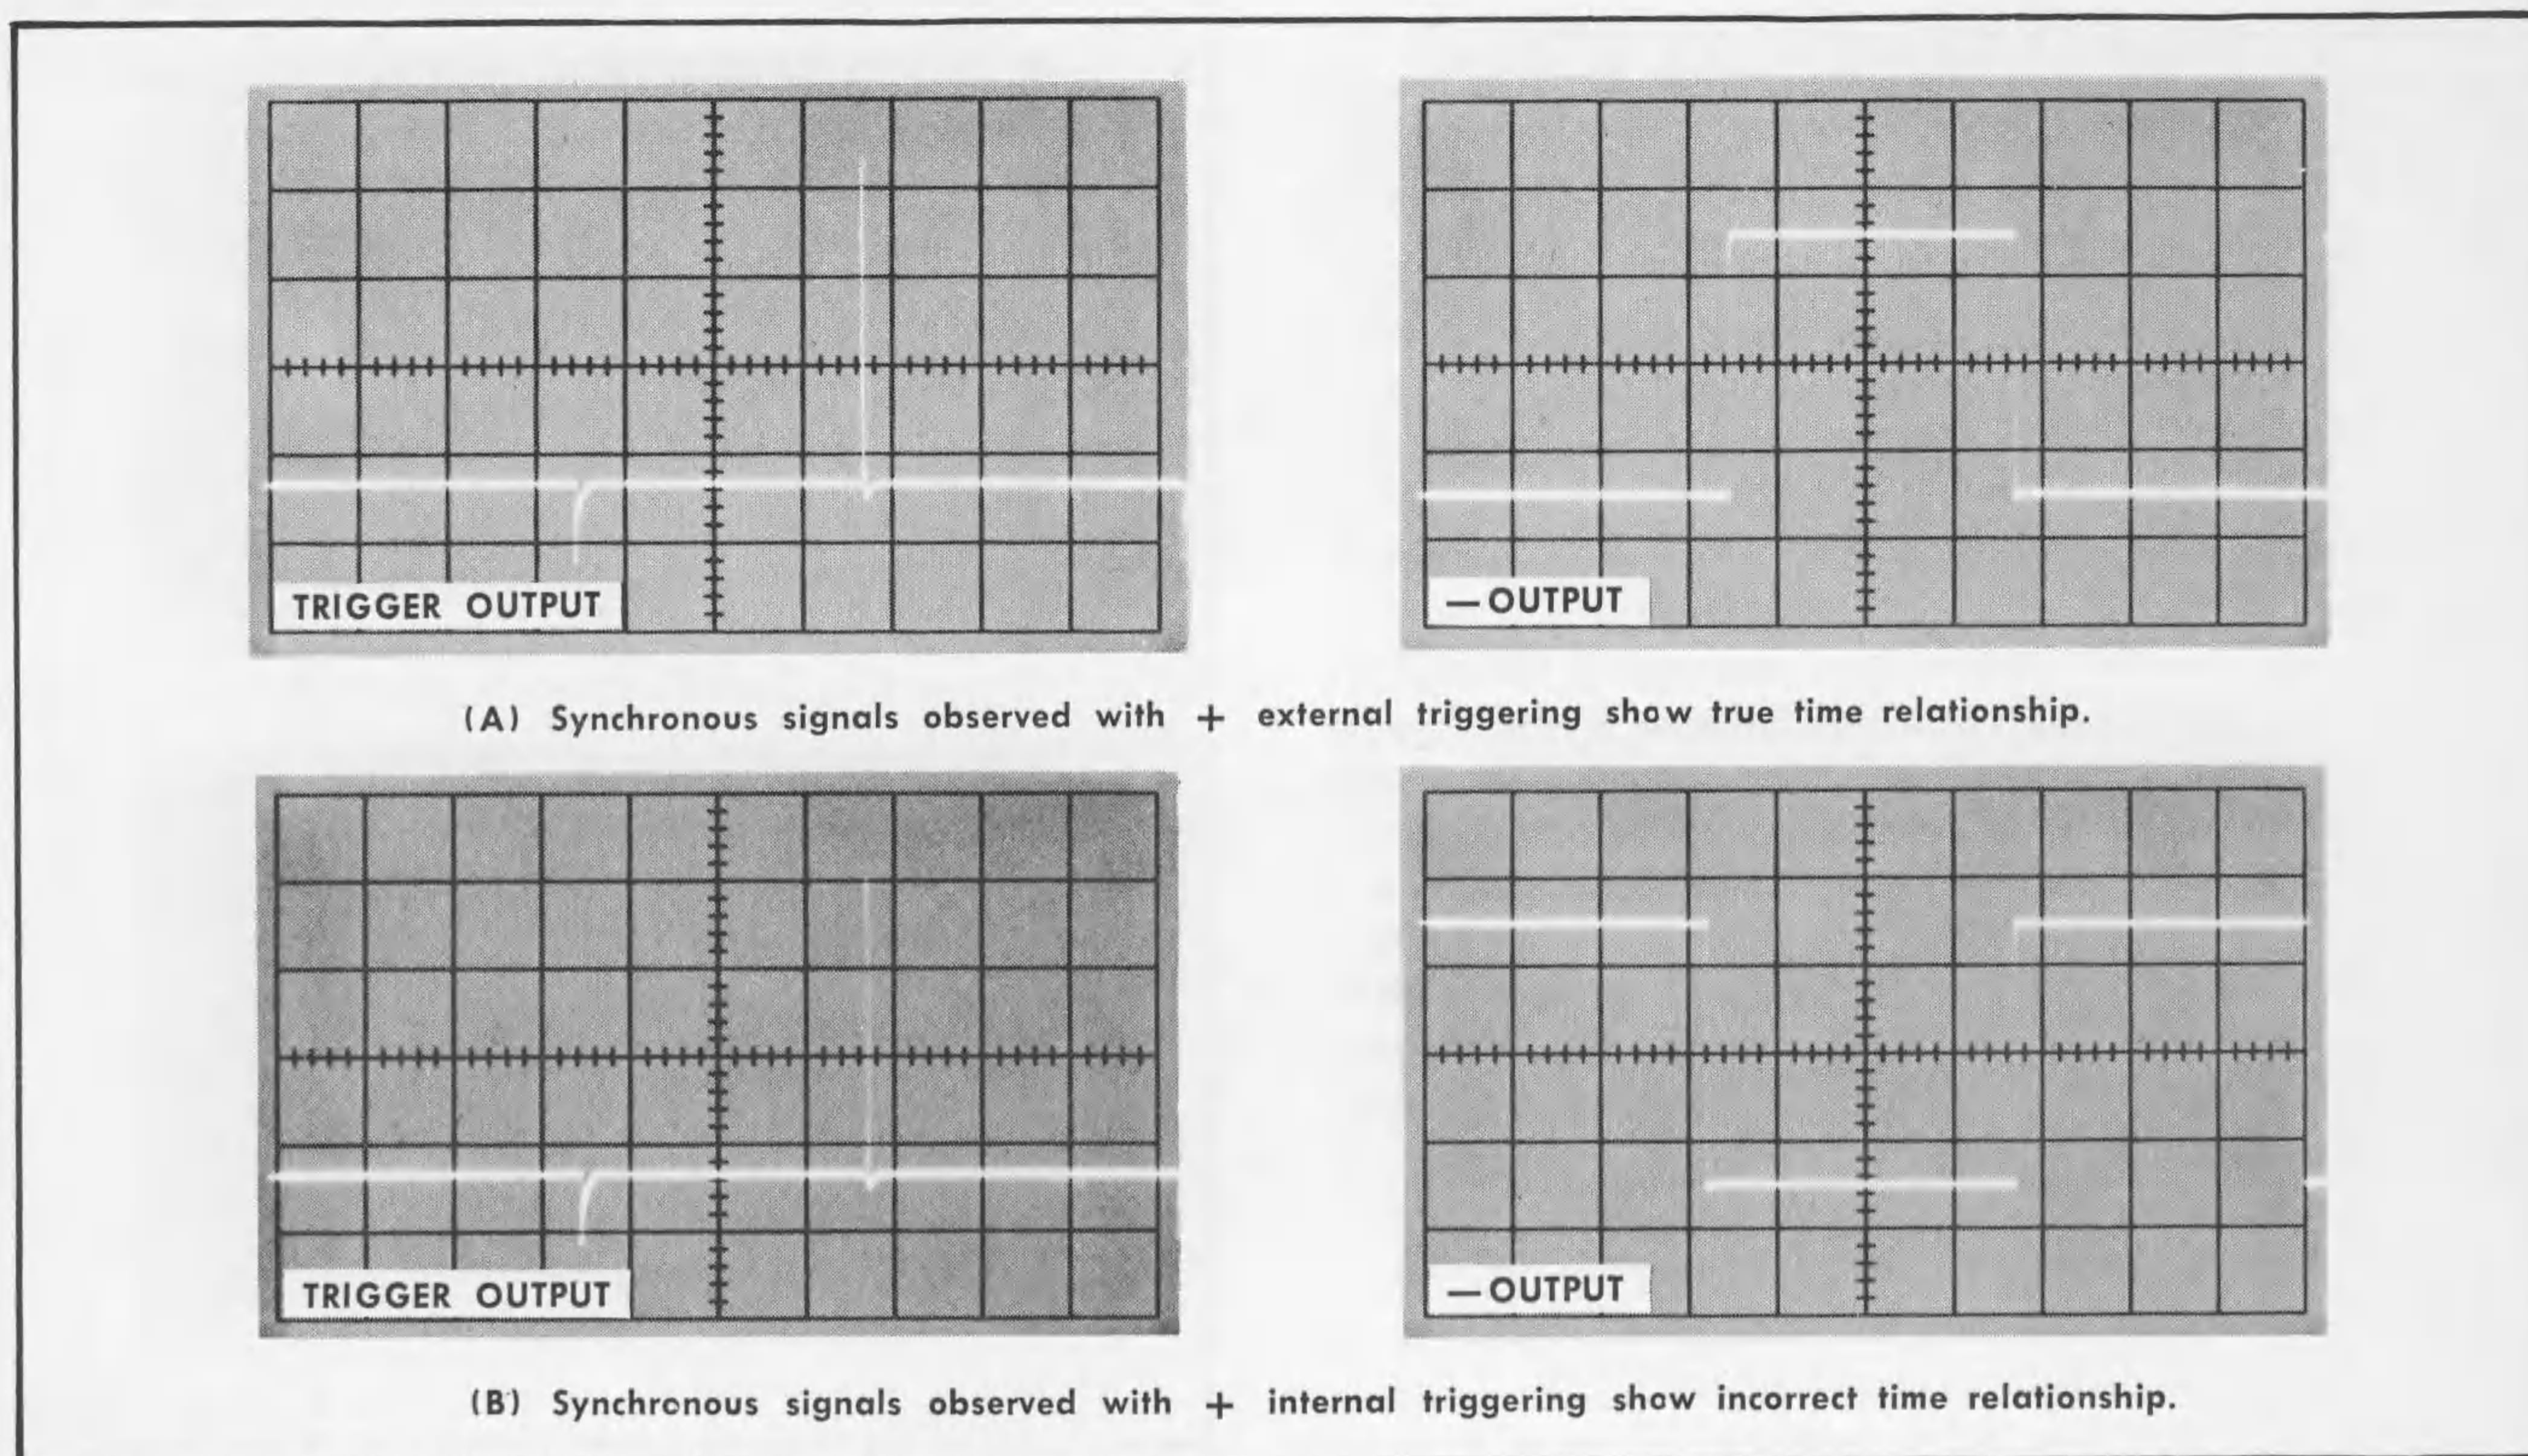

Fig. 2-13. Importance of external triggering for phase or polarity comparison. (Signals supplied by Tektronix Type 106 Square-Wave Generator.)
**Phase and Polarity Relationships.** When internal triggering is used, the signal slope displayed at the beginning of the sweep is dependent upon the trigger slope selected by the operator. If a comparison of phase or polarity is required, use external triggering and the same trigger source for the entire sequence of phase or polarity comparisons. The examples in Fig. 2-13(B) use + internal triggering and show the positive spike coincident with the rising portion of the square wave. The examples given in Fig. 2-13(A) both use the same + external trigger source and show that the square wave actually goes negative at the time the positive spike occurs.